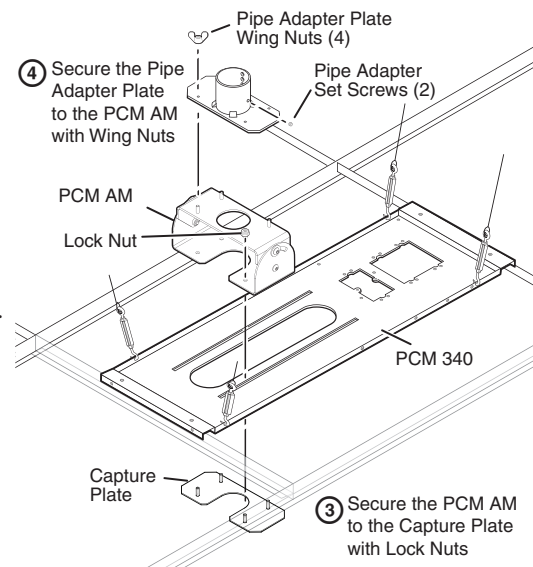

Figure 2 — Secure the PCM AM to the PCM 340
- Lift the pipe adapter away from the capture plate on the PCM 340 (see figure 2).